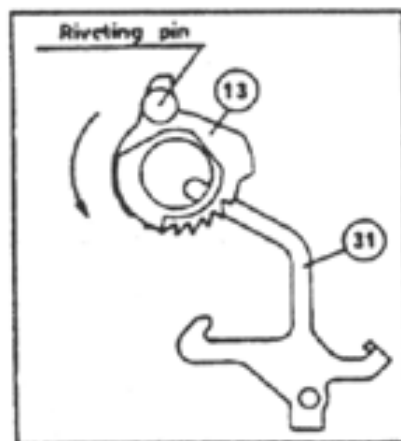

Figure 13
- Place a punch under the *counting wheel* through the left *selector switch* axle hole and apply pressure upwards. This will start the *counting wheel* rotating up and to the rear of the housing; make sure the *catch lever* (31) is now through the hammer spring hole in the *counting wheel* (13). (Fig. 13)